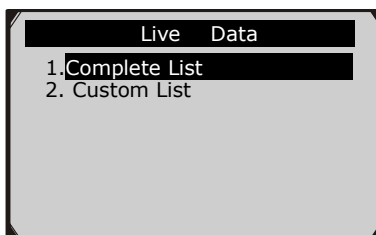

Figure 6.10
- 1) To view complete set of data, use **UP/DOWN** scroll button to select **Complete List** from **Live Data** menu and press the **OK** button. (Figure 6.10)
- 1) To view customized PID data, use the **UP/DOWN** scroll button to select **Custom List** from **Live Data** menu and press the **OK** button.(Figure 6.10)